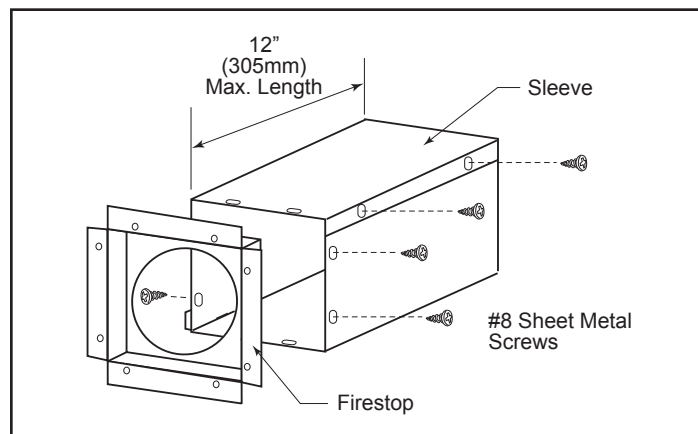

Figure 21 - Assemble the wall sleeve and firestop.
3. Install the Wall Firestop/Sleeve assembly into the wall cutout and fasten the firestop to the wall cutout framing members, Figure 21.